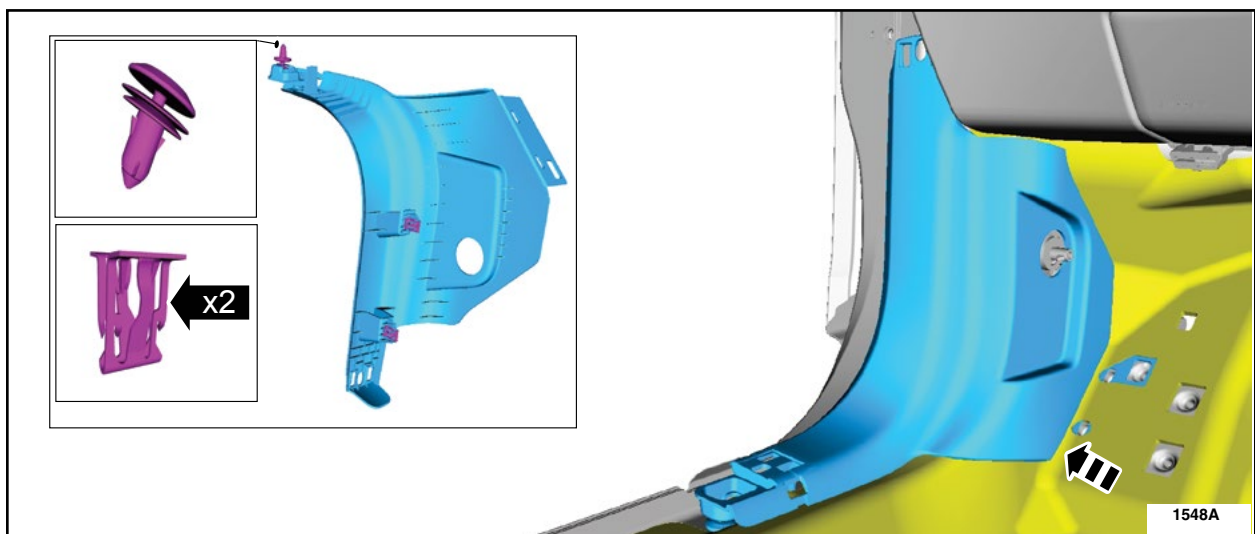

FIGURE 4
6. Remove the LH and RH lower interior cowl trim panels. See Figure 4.